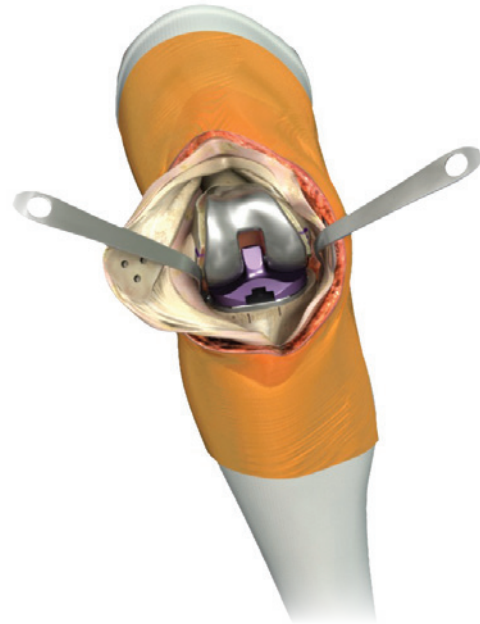

Figure 26d
6. Place the appropriate size Insert Trial onto the Tibial Implant and extend the leg to pressurize the cement. Remove any additional excess cement (Figure 26d).